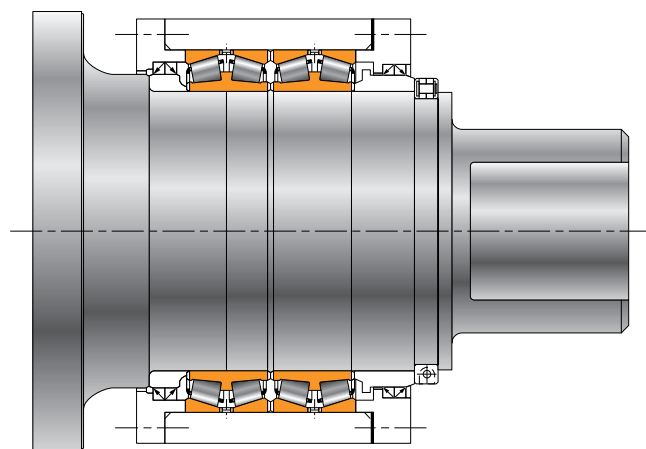

Fig. 62. 2TDIW simplified mounting arrangement.
- 2TDIW with reduced axial tolerances enables more compact and simpler mounting arrangements without adjustable retaining system (see fig. 62).
Type 2TDIW without cone spacer: Simplest and most compact design. Tighter width tolerances allow simplified mounting arrangement (fig. 62).